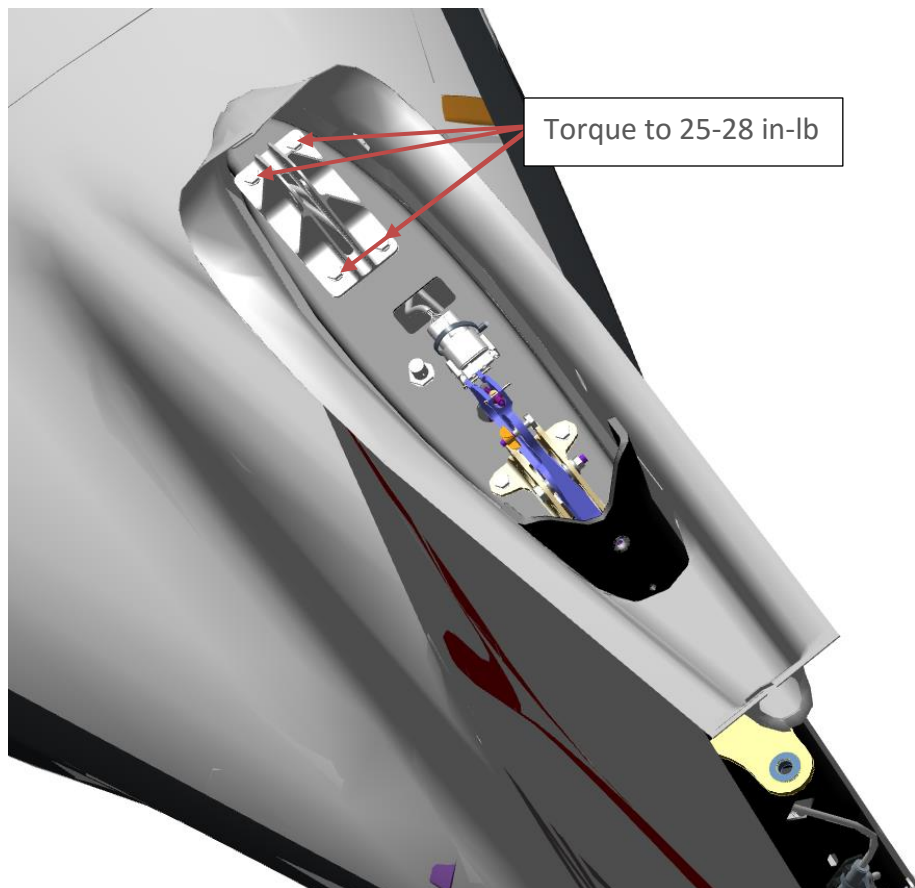

Figure 1: View of the vertical tail with the horizontal tail removed
1. Torque all four forward horizontal tail bracket to vertical tail attachment hardware to 25-28 in-lb as shown below in Figure 1. Prior to torquing mark all bolts then back them off by one-quarter turn, then proceed to torque them to the set value.